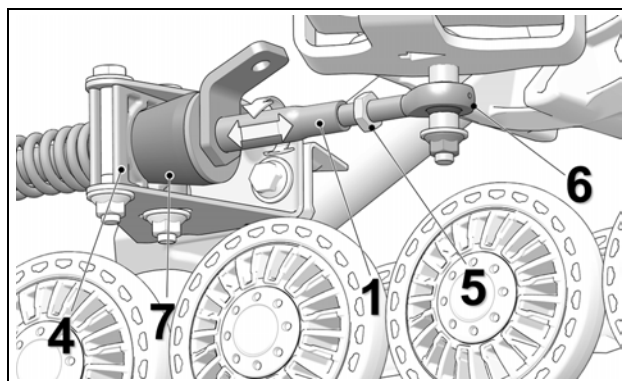

Figure 16
- Loosen jam nut (5). Turn stabilizing arm (1) to adjust length of rod end (6) so that rubber cone (7) applies light pressure on anti-rotation retainer (4). Figure 16.